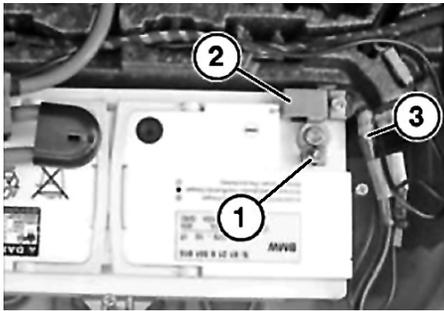

Fig. 2 Battery ground cable disconnection
3. Loosen battery ground cable terminal nut (1), **Fig. 2**.
4. Disconnect battery ground cable terminal (3) from battery and position aside, **Fig. 2**. Do not disconnect terminal by force.
6. Connect battery ground cable terminal to battery, **Fig. 2**. **Torque** terminal nut (1) to 44 inch lbs.